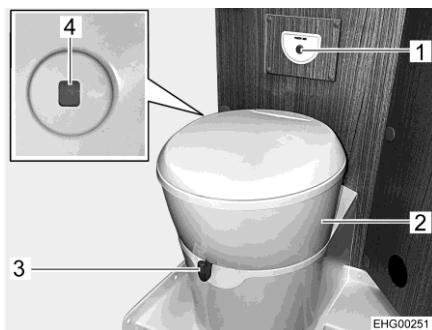

Fig. 77 Toilet
The toilet bowl can be rotated into the required position. In order to do this, grab the toilet's upper part (Fig. 77,2) with both hands and rotate it.
The operating unit with the flush button (Fig. 77,1) is installed near to the toilet bowl.
- Before flushing open the sliding trap of the toilet. To do this, push the slide lever (Fig. 77,3) in an anticlockwise direction.
- For flushing, press the blue flush button (Fig. 77,1).
The colour of the level indicator (Fig. 77,4) changes from green to red whenever the sewage tank has to be emptied.